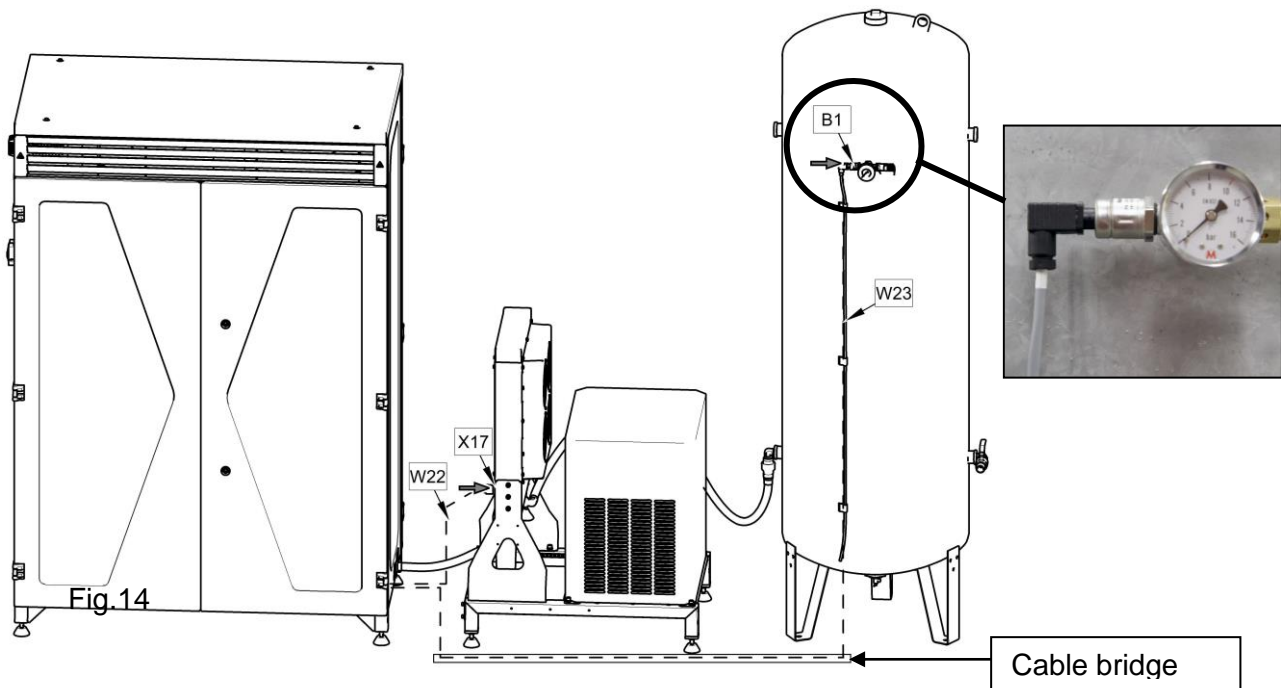

Fig.15
- Connect the power cord conductors to the power terminals L1, L2, L3, N/BU/, PE/GNYE/. (Fig 15).